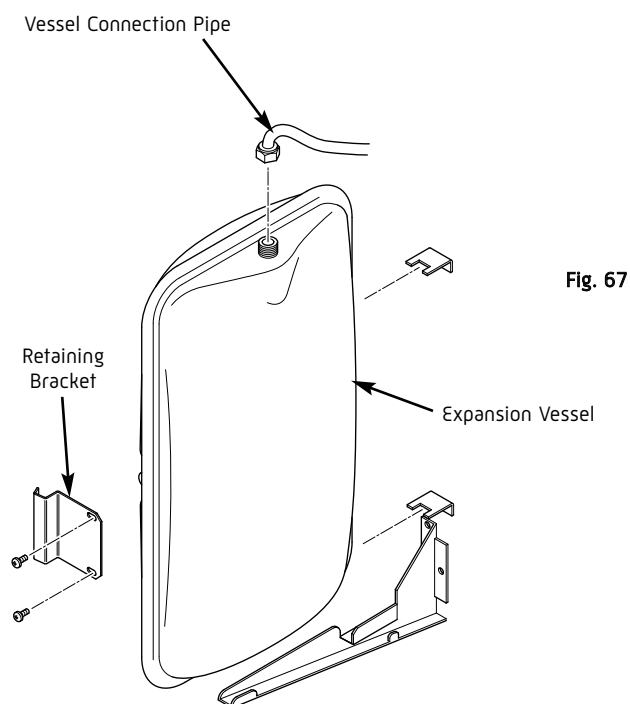

Fig. 67
2. Remove the two screws holding the retaining bracket and remove the bracket (Fig. 67).